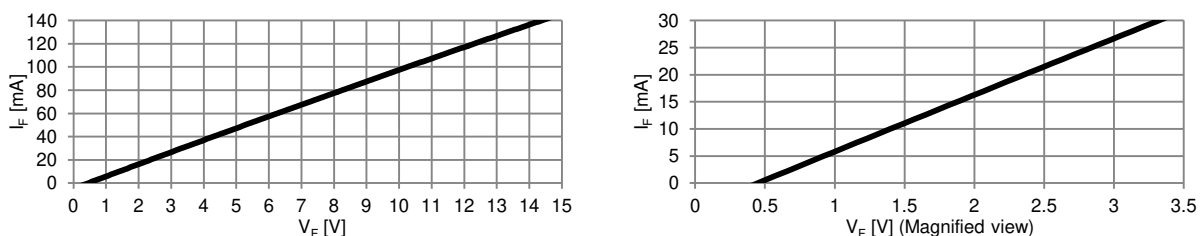

Figure 2. Built-in Bootstrap Diode V_F-I_F Characteristic (@T_a=25°C).
- The characteristics of bootstrap diode are described in Figure 2.